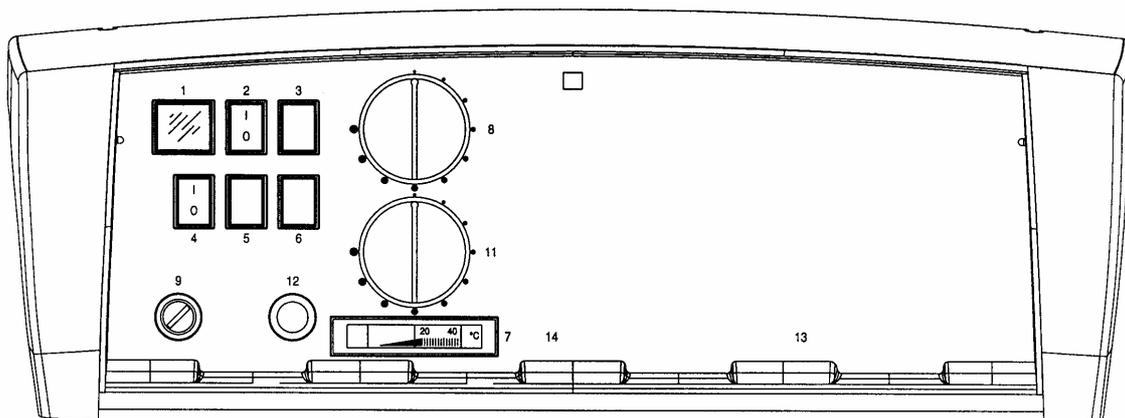

Fig. 3
3.4 PANEL DE MANDOS REX/REX K/STR (Fig. 3)